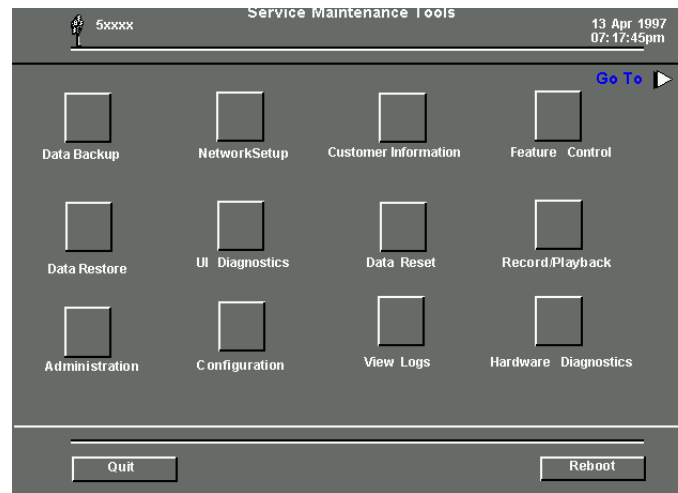

Figure 8-2 MSM Service Level Diagnostic Menu
- 10 Use the trackball to click **PRIOR** to return to the Service Maintenance Tools menu, as shown in Figure 8-2.